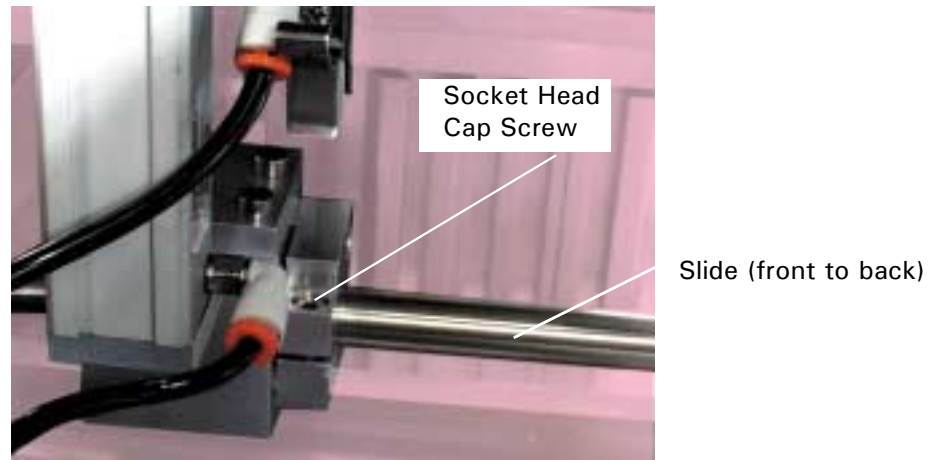

Figure 5-1
1. Loosen the socket head cap screw and position stop along the slide. Position stop so that the board does not become skewed when conveyor is in motion. See Figure 5-1.
2. Tighten the cap screw after the stop is set at the desired location between the front and rear conveyor rails. See Figure 5-1.